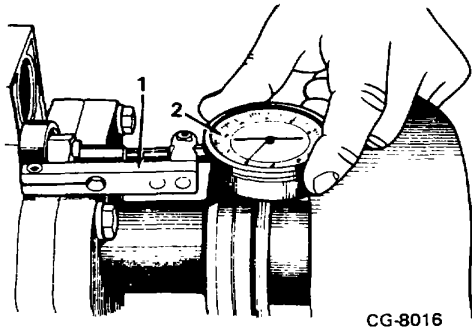

Figure 2. Installing Dial Indicator (Rack Gauge)
1. Mount pump on stand and install rack dial indicator 1 687 233 015, bracket 1 688 130 030, adapter bushing 1 683 350 065 and rack pin 1 683 201 013 (Figure 2).